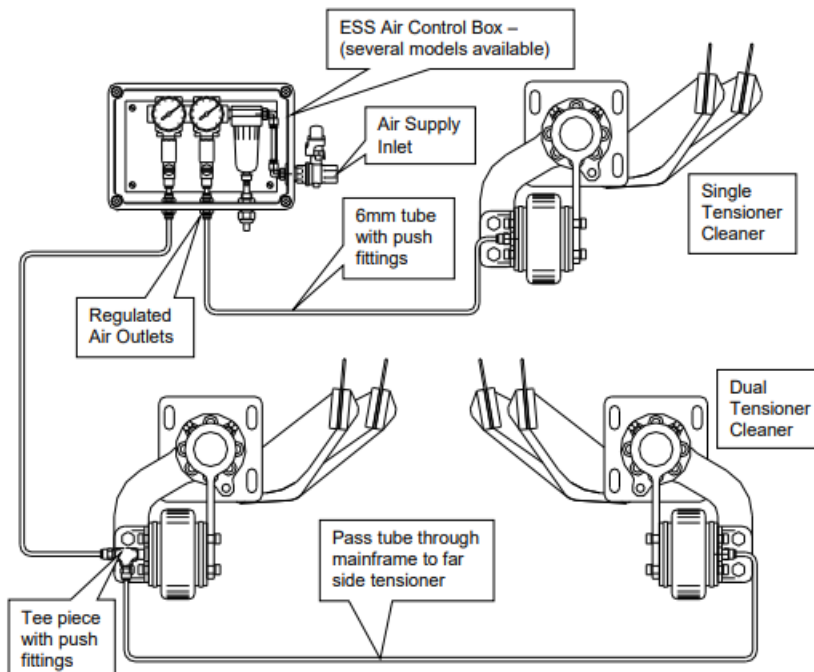

Figure 7 - Air Connections
- Step 8** The cleaner is now ready for attachment of the air supply system. Connect all air fittings using a good quality liquid compound or "Gas Seal" thread tape. Refer to the connection diagram in section 5.2.1 Air Tensioner, Figure 7.